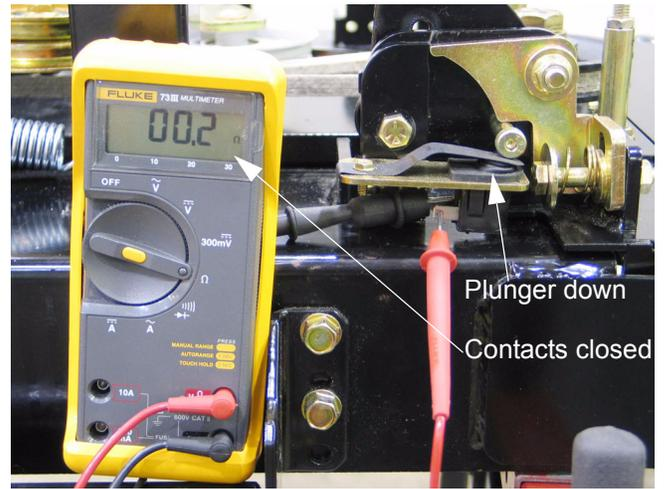

Figure 10.14
10.14. The switch contacts are normally open (N.O.), meaning that the internal contacts are broken when the plunger is extended. See Figure 10.14.